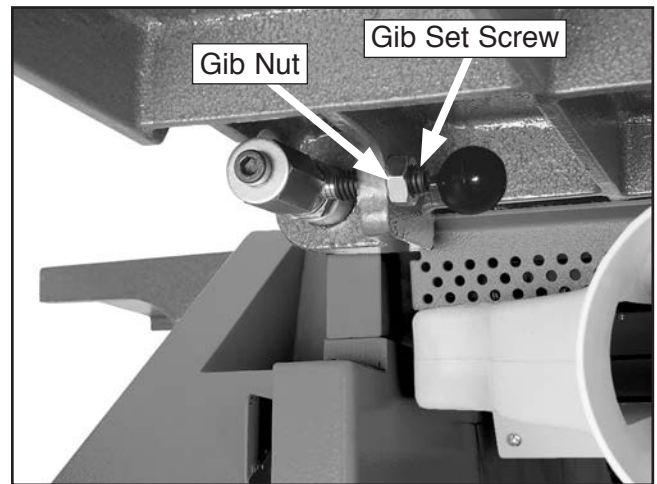

Figure 77. Outfeed table gib control.
- Repeat **Steps 1–2** with outfeed table gib control (see **Figure 77**).